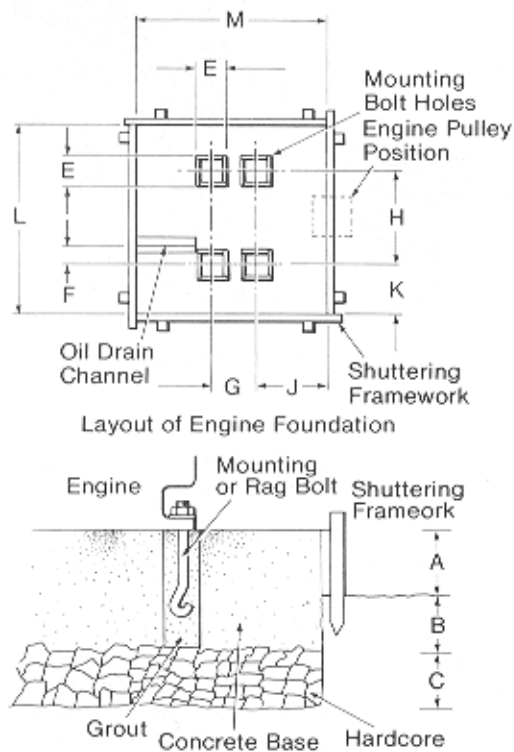

Figure 1.2 Foundations
1.8 To mount engines on a concrete base, foundations must be prepared as shown in Figure 1.2. The dimensions shown are for normal site conditions with solid subsoil and should be enlarged upon or a raft constructed, if a soft or made up ground condition exists. Surfaces should finish about 25mm (1 in.) below the dimensions given to allow for grouting up. Foundation bolts can be supplied to special order only.